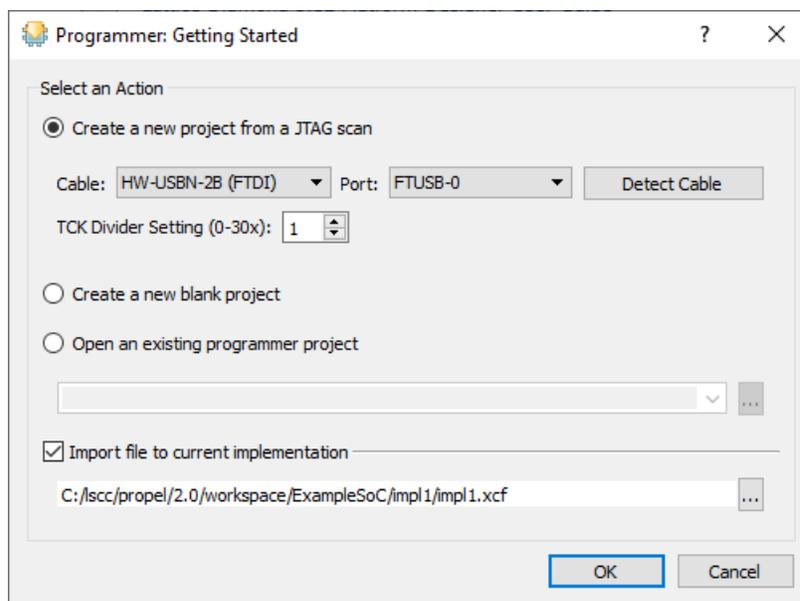

Figure 4.6. Programmer Getting Started Dialog
2. The **Programmer: Getting Started** dialog pops up (Figure 4.6). Click **OK**.